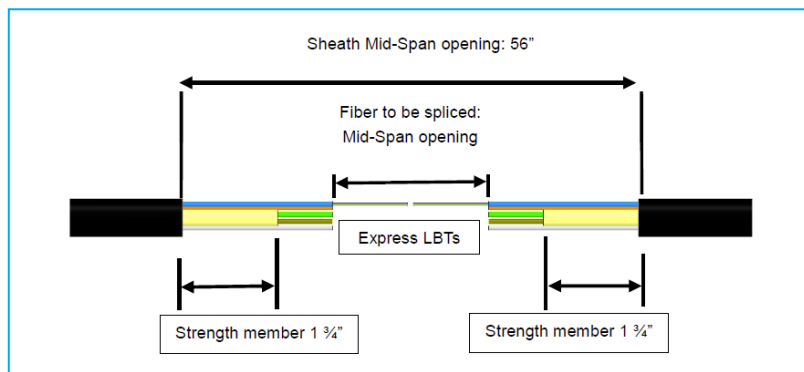

Figure 1
Preparation of Loose Buffer Tube Standard or Micro, and Flat Drop with or without Trace wire. See Figure 1.
5.1.1.1 Prepare mid-span opening: remove **56"** of outer sheath. See Figure 1.
5.1.1.2 Cut strength member(s) **1 3/4"** from end of sheath openings. See Figure 1.